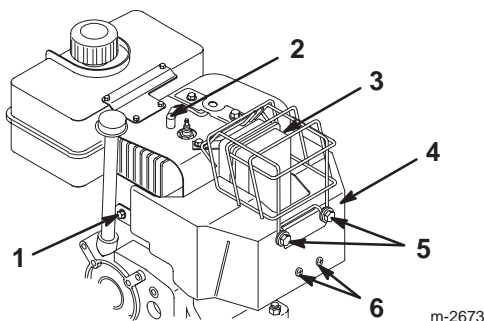

Figure 24
If you operate the engine when the air temperature is above 40°F (4°C), remove the carburetor heater box (Fig. 24).
1. Disconnect the wire from the spark plug and ensure that the wire does not contact the plug (Fig. 24).
4. Remove the fasteners that secure the carburetor heater box (Fig. 24).